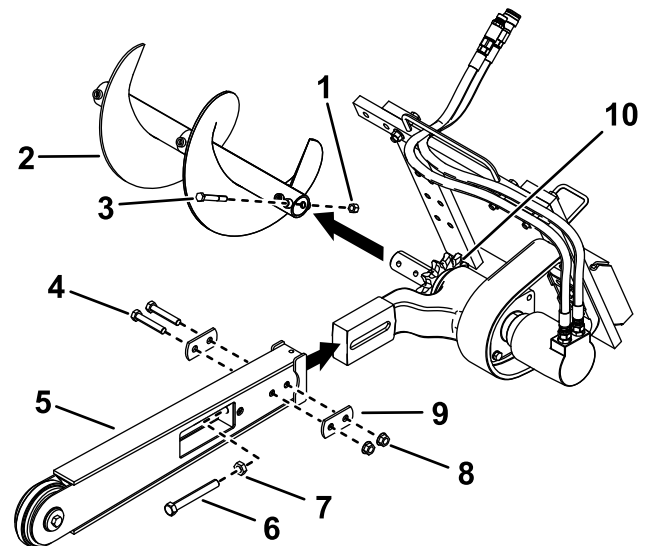

Figure 4
3. Remove the bolt and nut securing the spoils auger and remove the auger (Figure 4).
4. Remove the 2 bolts (5/8 x 3-1/2 inches), 2 nuts (5/8 inch), and 2 double washers from the sides of the boom (Figure 4).
5. Loosen the adjusting bolt and jam nut (Figure 4).